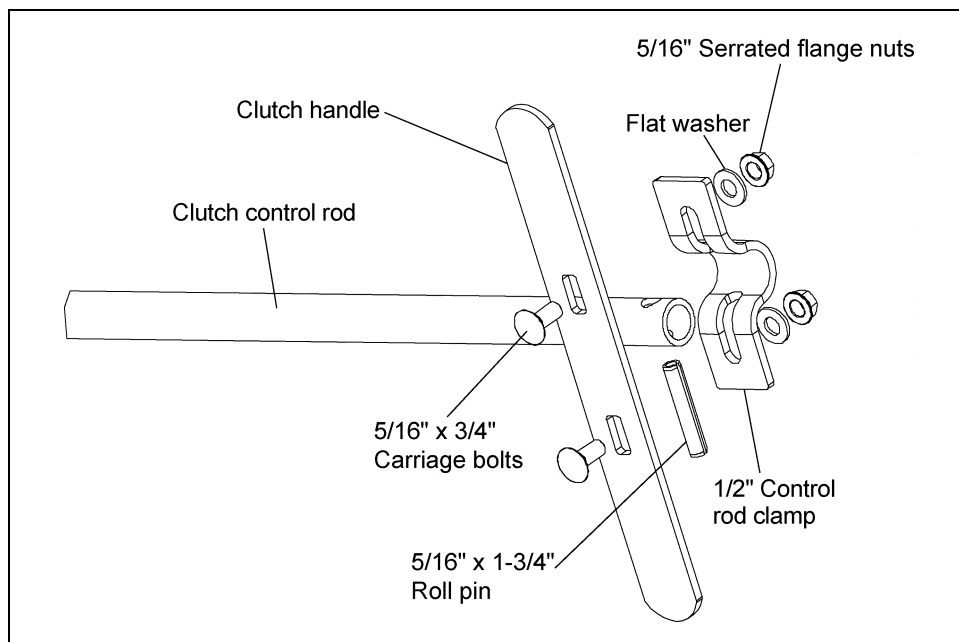

Figure 4V
3. Attach clamp to the control pipe by sliding 5/16" x 1-3/4" long roll pin through the clamp and control pipe. Fasten the clamp handle by using two (2) 5/16" x 3/4" carriage bolts, and serrated flange nuts. Install nuts so they secure the 5/16" x 1-3/4" long roll pin in place. (See Figure 4V.)